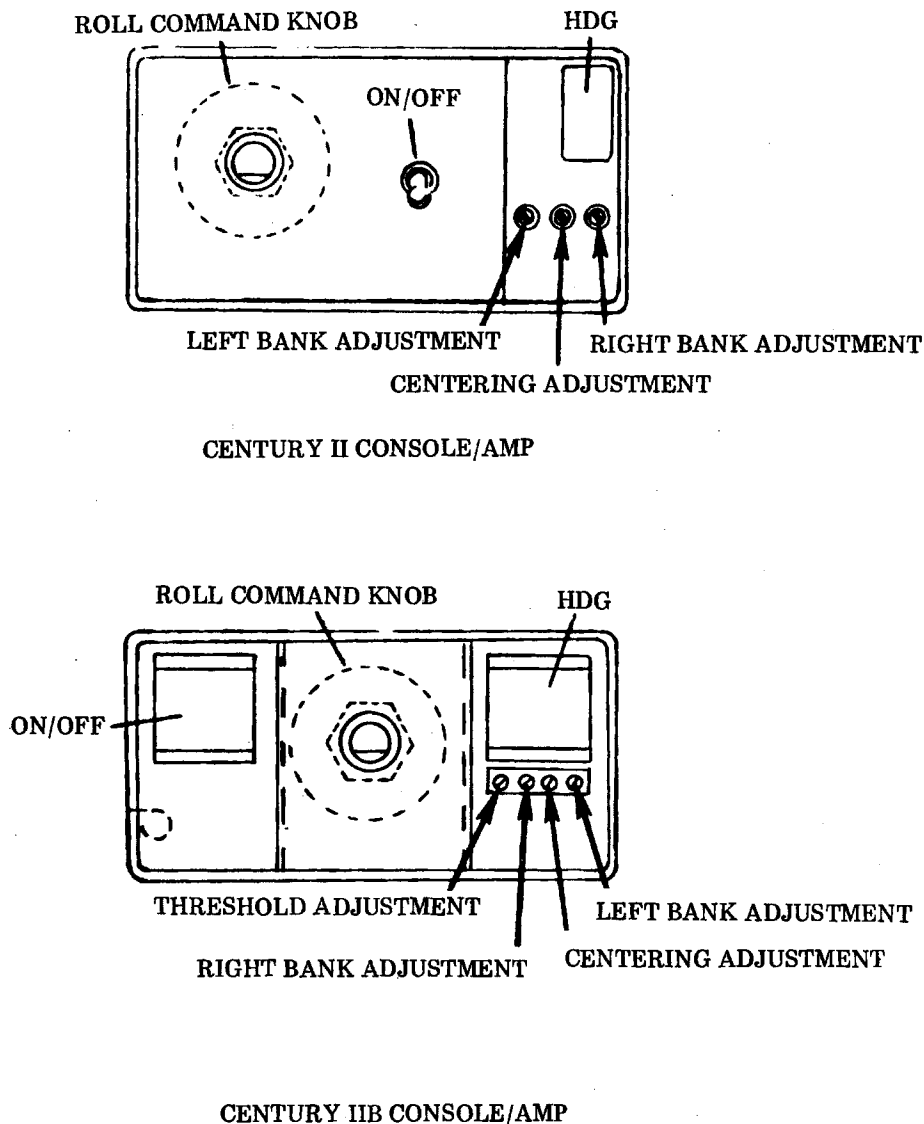

FIGURE 4-3
2. Null output with centering pot. (See Fig. 4-3.)
1. Set left and right bank adjustments on the console to minimum limit (CCW). (See Fig. 4.3.)